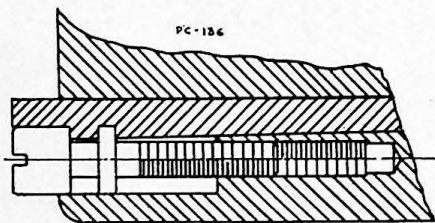

FIGURE 8
Adjustment of the headless type of gib, shown in Fig. 8, is the same as previously described except that no locking device is used. This type of gib is used on knee and also the saddle. There are two short gibs used on the knee. One is adjusted from top and the other from the bottom. The lower gib should always be adjusted first.
2. Remove three saddle gibs. These are headless type of gibs. See Figure 8, page 8.